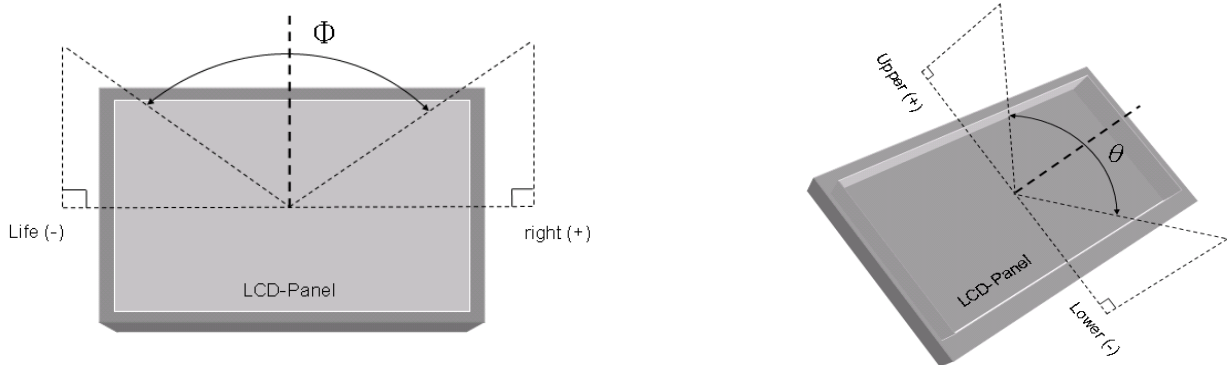

Fig.2 Definition of Viewing Angle
*4) Definition of Viewing Angle(θ, ψ),refer to Fig.2 as below : (EZ-CONTRAST (ELDIM))